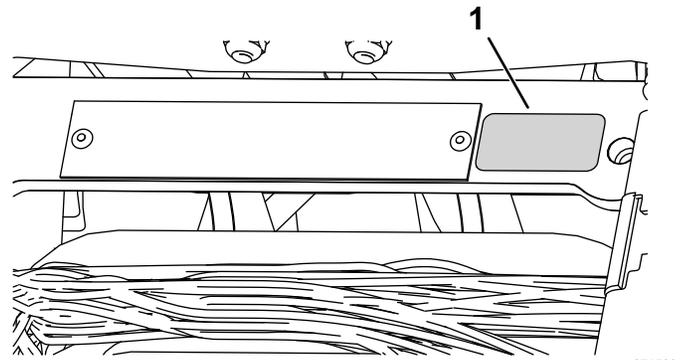

Figure 12
- Install the production year decal near the serial plate (Figure 12).